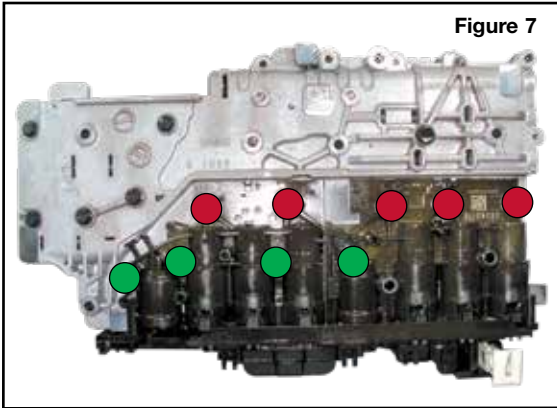

Figure 7
- Remove the four 10mm head and five 7mm head bolts (Figure 7). Remove the TEHCM and set aside for inspection, testing and cleaning.
- Install the four 10mm head and five 7mm head bolts and *hand-tighten only* (Fig. 7).